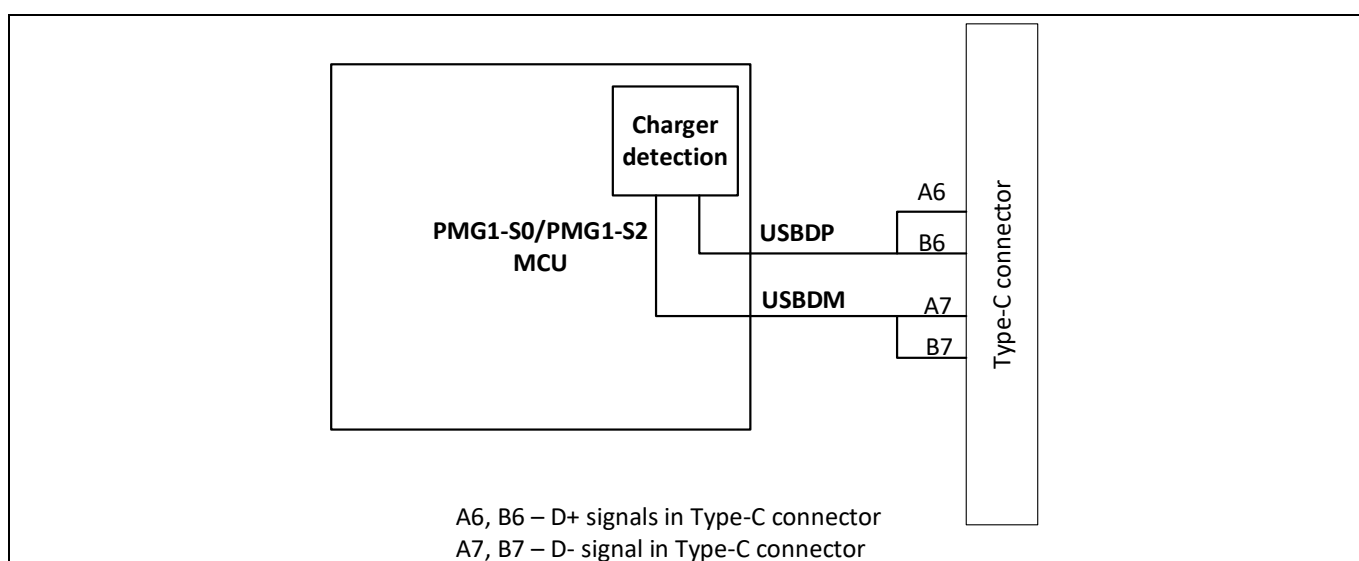

Figure 23 Charger detection in EZ-PD™ PMG1-S0 MCU, EZ-PD™ PMG1-S2 MCU, and EZ-PD™ PMG1-S3 MCU
- In EZ-PD™ PMG1-S0 MCU, EZ-PD™ PMG1-S2 MCU, and EZ-PD™ PMG1-S3 MCU, short the A6 and B6 (DP) of the Type-C connector and route to the USBDP pin of the MCU. Short A7 and B7 (DM) and route to the USBDM pin of the MCU (**Figure 23**).